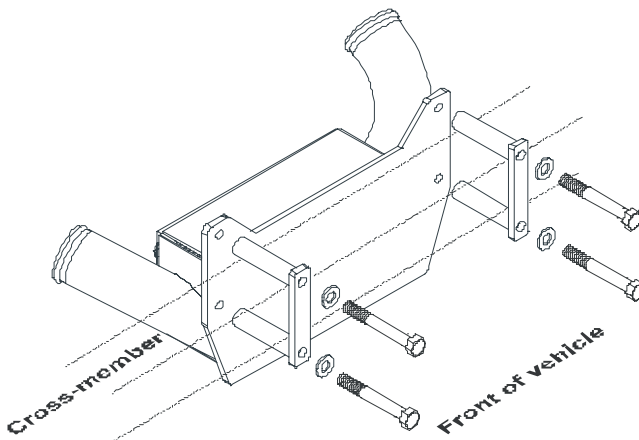

Figure 2.4
- ☐ Place the oil cooler in position with the two threaded hose fittings facing towards the rear of the truck (Figure 2.4).